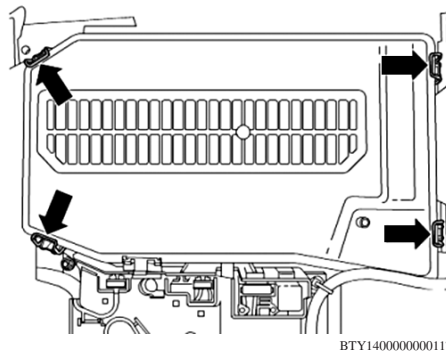

Fig. 5 Battery cover removal
10. **On all models**, fold back carpet, open locks on battery housing (arrows) and remove cover, **Fig. 5**.
7. Install cover and close locks on battery housing (arrows), **Fig. 5**.